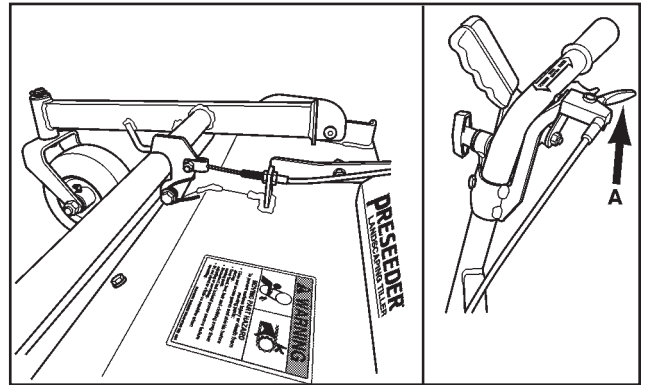

FIGURE 24 Transport Release Lever
5. Push down on the handle bars and pull the TRANSPORT RELEASE LEVER A to lower the tiller to working depth (See Figure 24).